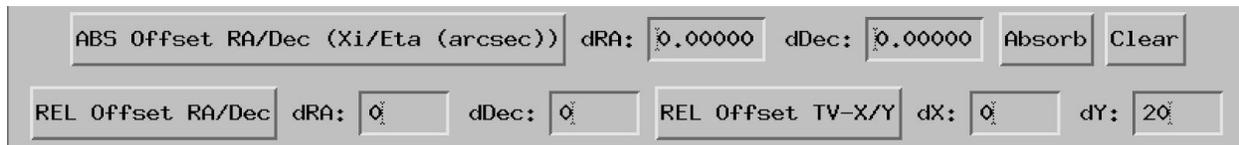

Figure 18. Cut-out section of the slitview GUI showing the offset selections.
- 8) **ABS RA/Dec (Xi/Eta (arcsec))**: Sends an absolute telescope offset in arcseconds in TPLANE Xi/Eta coordinates (i.e. dRA/dDEC) (Figure 18). The offset is absolute with respect to the original science target position. The field values actively accumulate relative offsets applied through the two REL offset buttons below. An absolute offset of 0,0 should always put the target back in the original position.